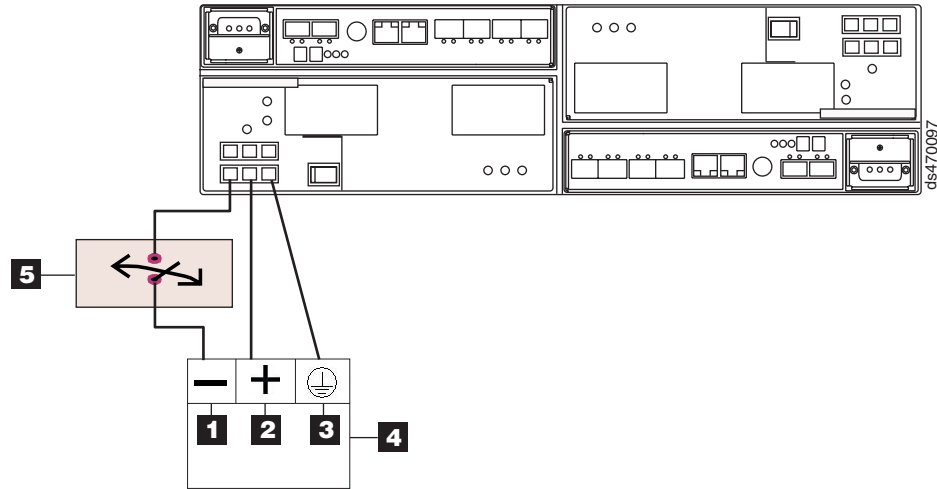

Figure 95. DC wiring from DS4700 Express to disconnect device and dc power source
- Complete the wiring from the disconnect device to the terminal marked -48V of the Reliably grounded safety extra low voltage (SELV) dc power source. Connect the POS RTN and ground lines of the dc power cable to the terminals marked POS RTN and GND on the dc power source, as shown in Figure 95. For maximum protection against power loss, connect each of the two dc power supplies to a different power source.